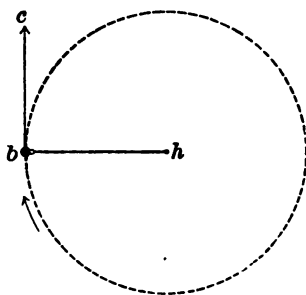

FIG. 75
**79. Explanation of Centrifugal Force.** — *When a body moves in a curved path, it tends at all points to pull away and go on in a straight line.* If you whirl a stone rapidly about your hand by means of a string (Fig. 75), it tries to pull away all the time. If at any point, *b*, you simply let go, it flies off at once along the straight line *bc*. The force with which all bodies moving in a curved path tend to pull away from that path, is called *centrifugal force*.